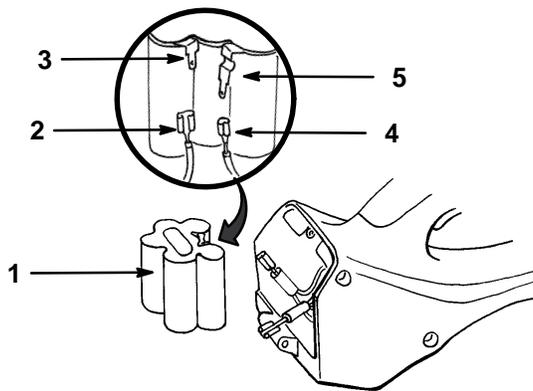

**Figure 15**
1. Remove the two screws securing the battery cover and remove the cover (Fig. 15).
14. Replace the battery cover and secure it with the screws removed previously (Fig. 15).
6. Replace the battery cover and secure it with the screws removed previously (Fig. 15).